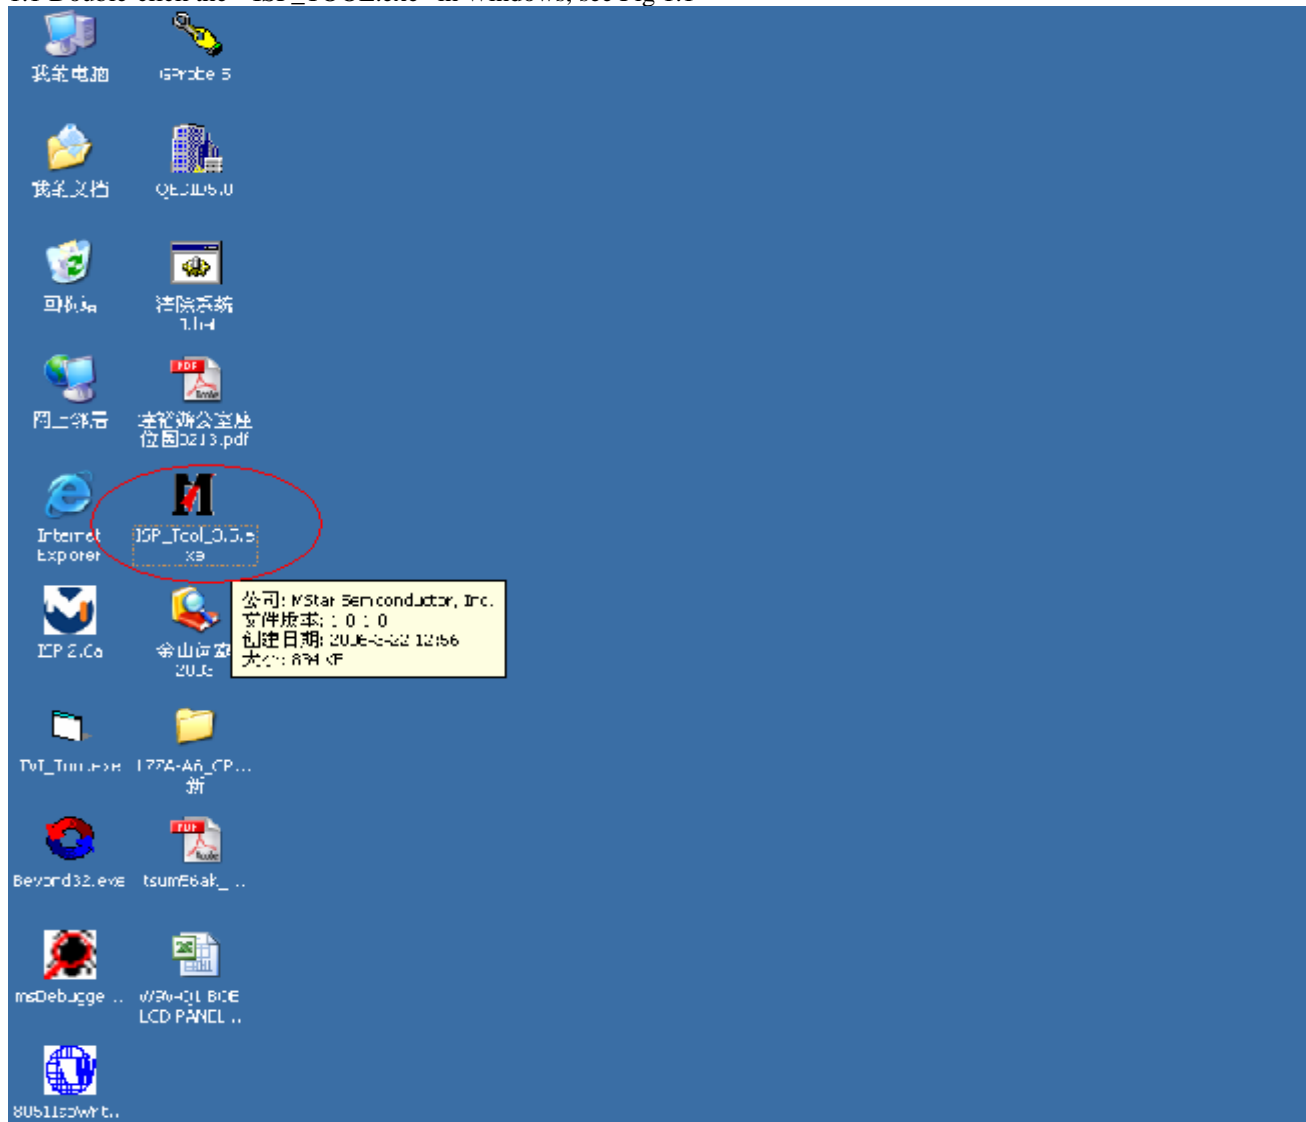

Fig. 1.1
1.1 Double-click the “ISP_TOOL.exe” in Windows, see Fig 1.1